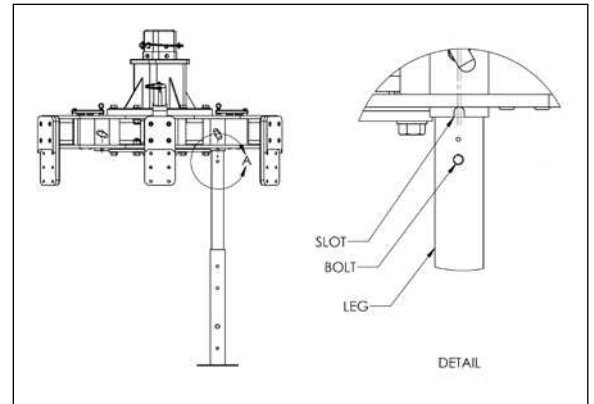

Figure 9. Close Up Of Bolt On Supporting Leg
6. Line up the bolt head with the slot in the leg sleeve, as shown in Figure 9.